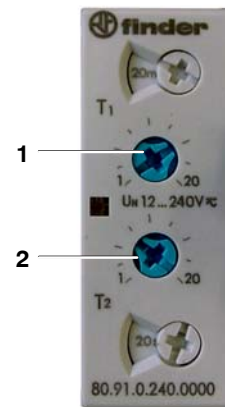

Fig. 50 Timer Q2 (electric units)
Q2 is an industrial timing relay with 1 single pole, double throw contact. The drain interval and drain period is set with controls t1 (1, Fig. 50) and t2 (2). t1 is factory set to 15 minutes, t2 to a drain time of 6 seconds.